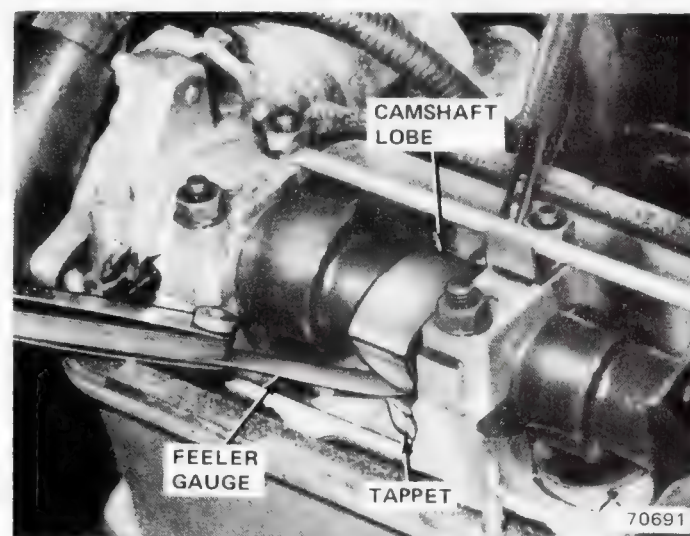

Fig. 1B-19 Checking Tappet Clearance
- (1) Remove TAC flexible hose.
- (2) Disconnect harness clip from cylinder head cover. Disconnect ignition wires from spark plugs. Remove cap from distributor and lay aside.
- (3) Remove cylinder head cover.
- (4) Rotate **crankshaft** to bring cylinder number 1 to TDC of power stroke. This may be determined by observing position of distributor rotor. Rotor tip should point to mark stamped on edge of distributor housing.
(5) Check clearance of four tappets listed below (fig. 1B-19). Refer to Tappet Clearance chart for specifications.